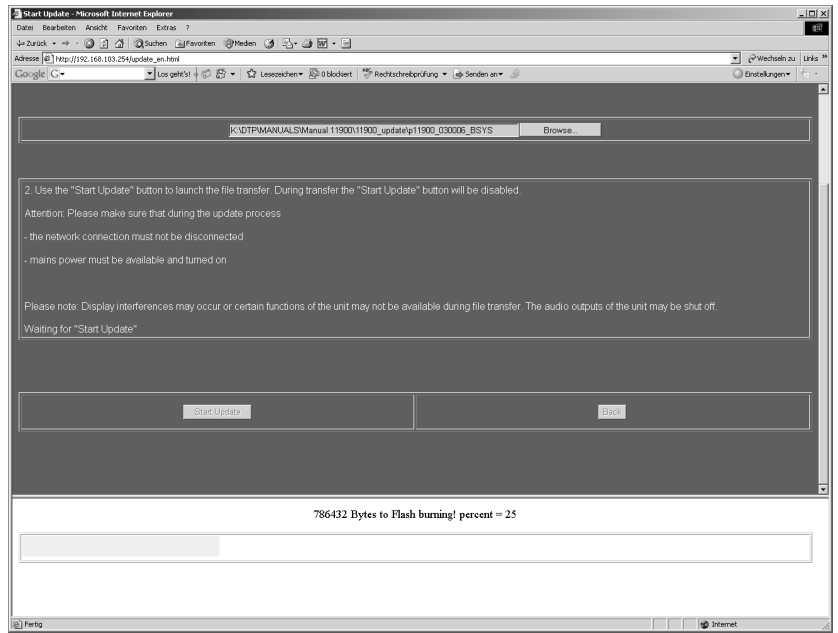

Fig. 8-7: Progress of the data transfer of the selected update file
7. A bar on the lower end of the update window on the PC reads the data transfer progress (see Fig. 8-7).